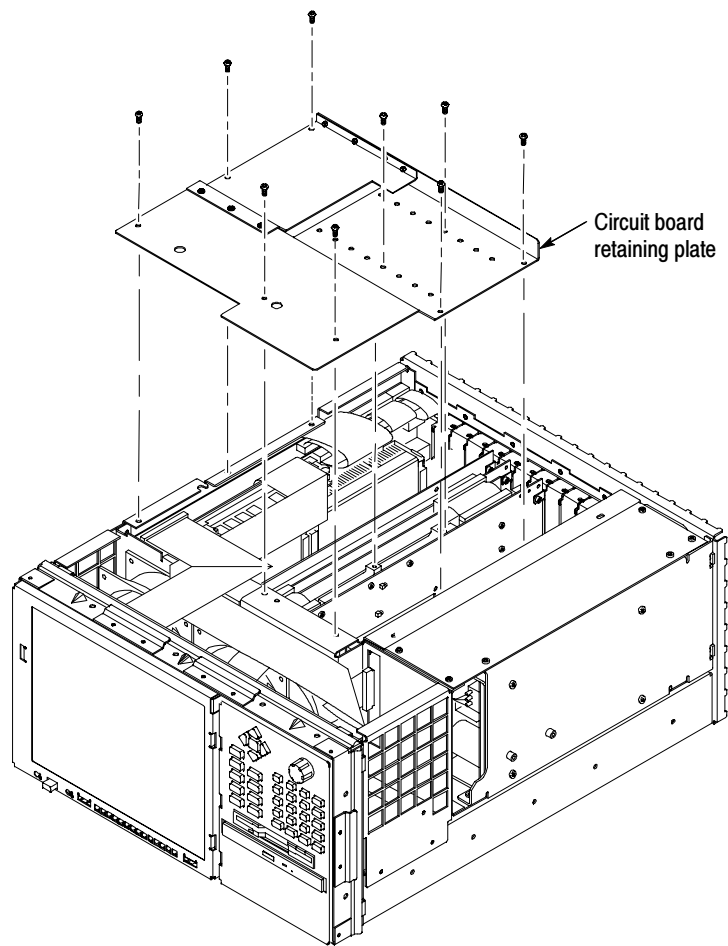

Figure 3: Circuit board retaining plate
1. Remove the nine T15 screws that secure the circuit board retaining plate (see Figure 3), and lift the retaining plate away.